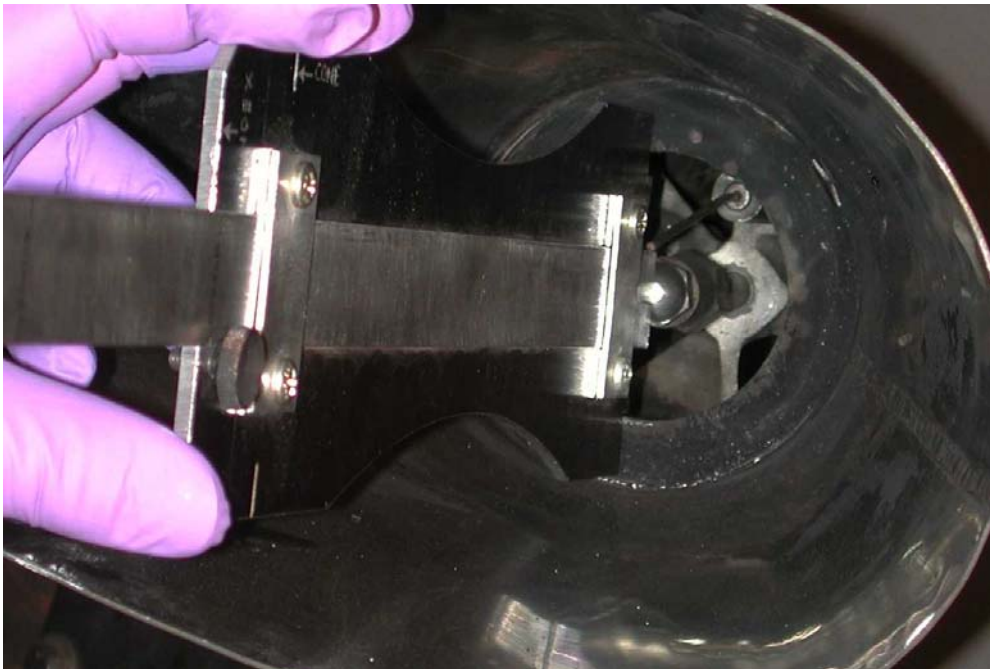

Figure 2: Setting Fuel Nozzle Depth
- Using dipstick, adjust fuel nozzle depth. See Figure 2.